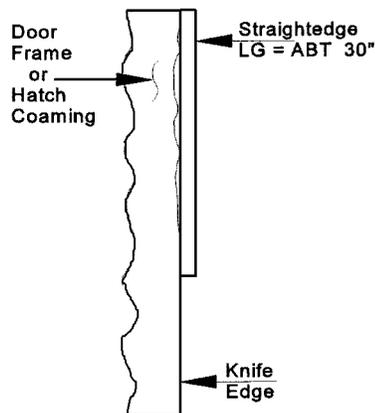
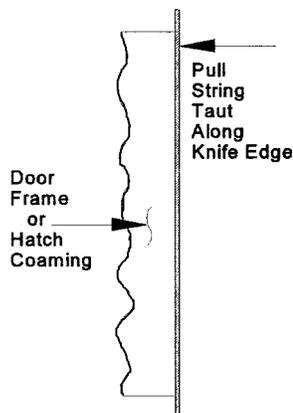
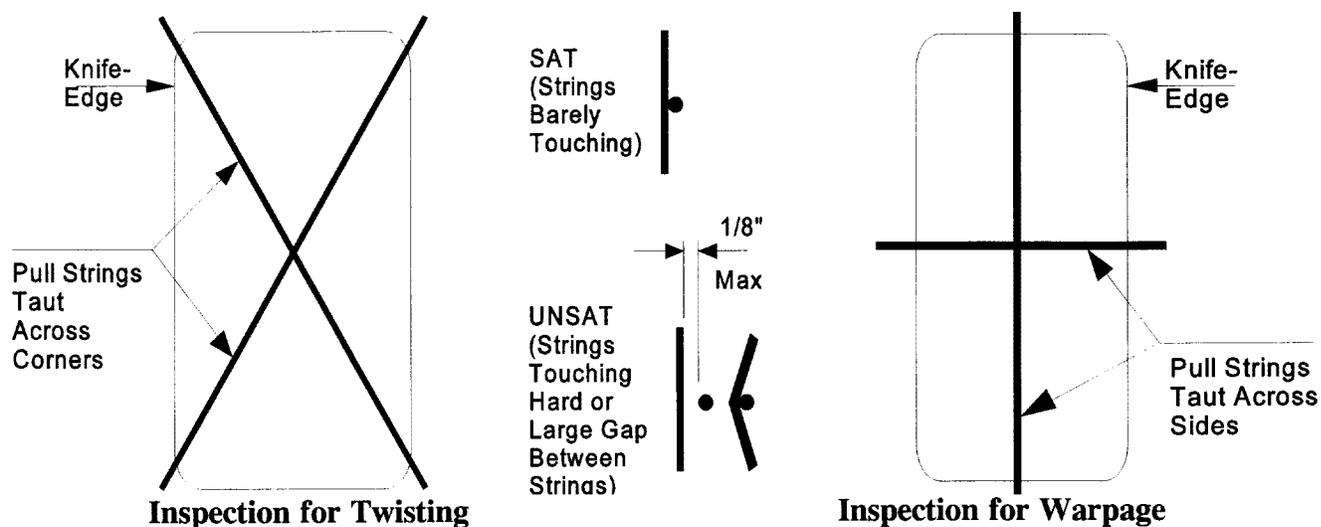

Figure 2-1. Knife-Edge Inspection Using Straightedge Method
Figure 2-2. Knife-Edge Inspection Using String Method
Figure 2-3. Knife-Edge Inspection for Warpage
- a. Open the fitting. Inspect the knife-edge for straightness and/or warpage using a straightedge and two lengths of string. See figure 2-1, figure 2-2, and figure 2-3. The maximum acceptable variation for knife-edge straightness is plus or minus 1/16 inch. The maximum acceptable warpage of the door frame is 1/8 inch. If frame/coaming warpage is excessive, or if the knife-edge straightness is not within tolerances, initiate action to replace the closure.